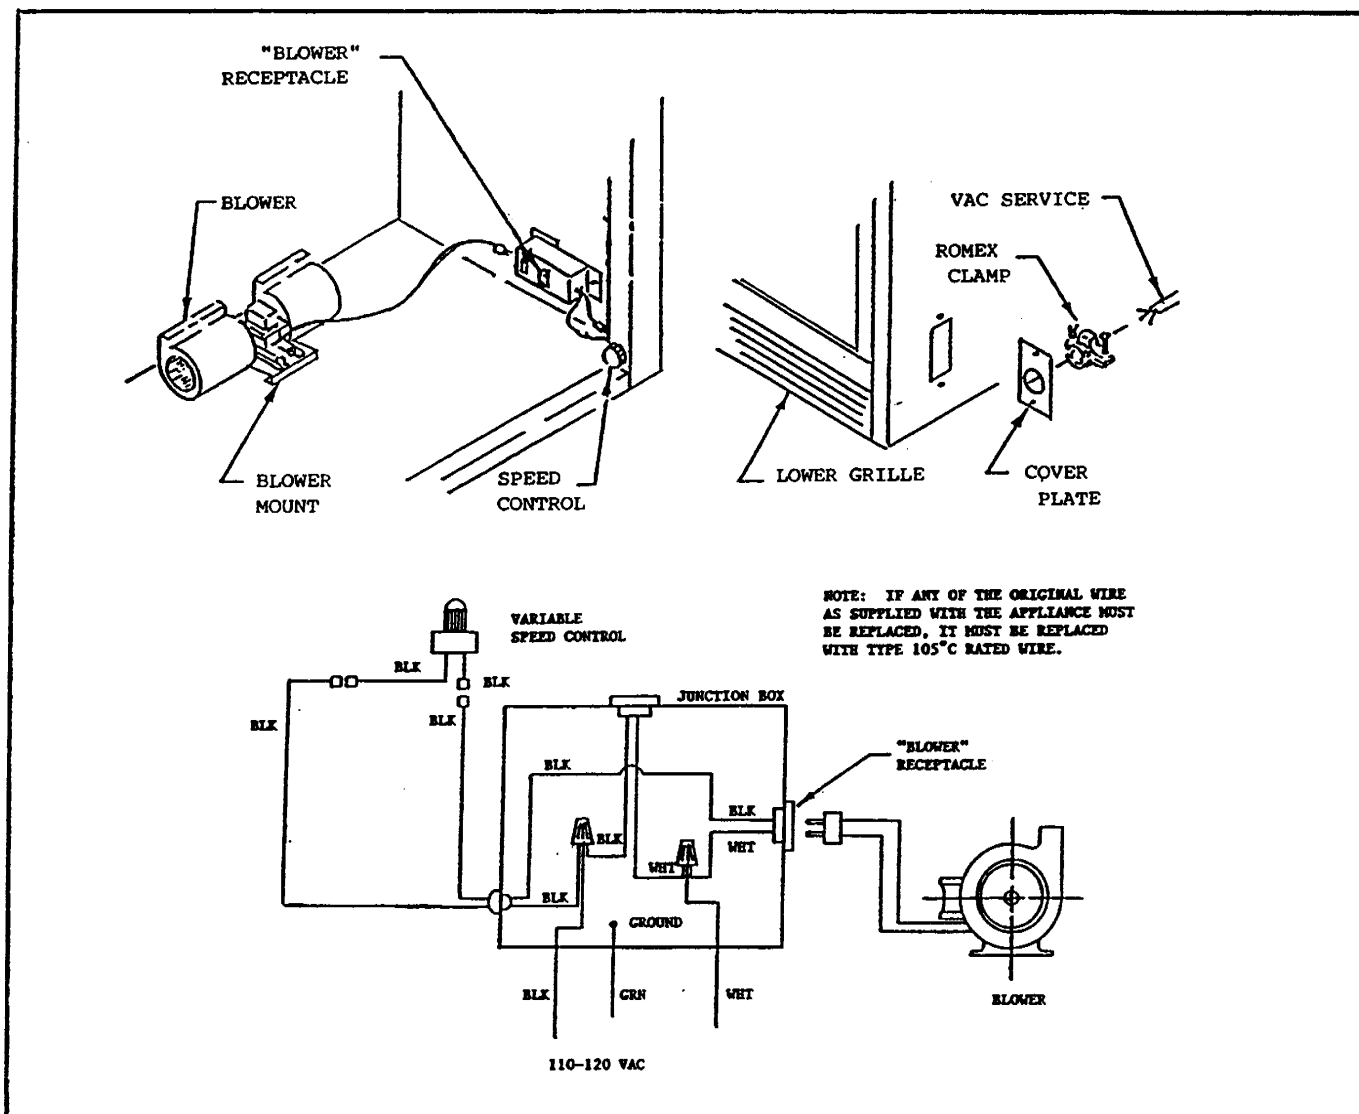

FIGURE 14
A GFK-160A fan kit is approved for use in CBS-41. The JB-11 junction box is factory installed. It **MUST** be field wired before the fireplace is enclosed. See Figure 14.
**NOTE:** The temperature sensor in the GFK-160A fan kit is **NOT** used in CBS-41. Discard the sensor switch. The wiring diagram is shown in Figure 14.